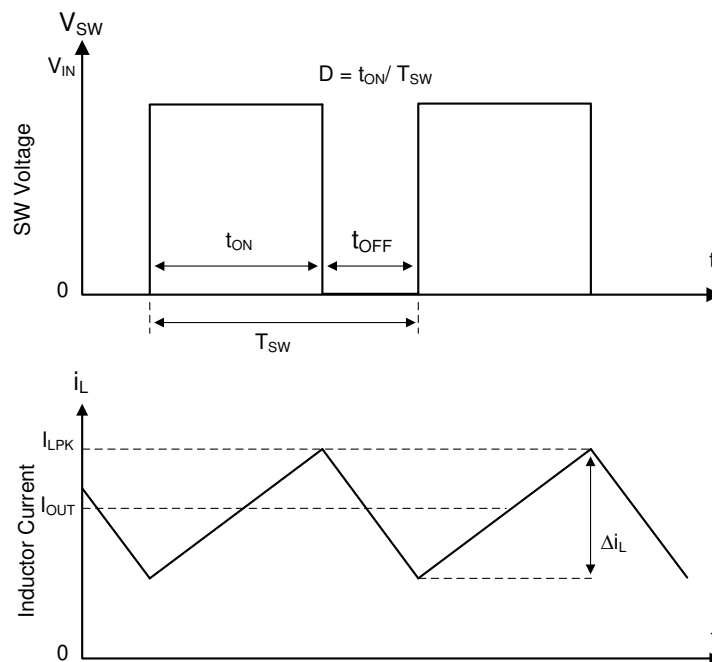

Figure 8-1. SW Node and Inductor Current Waveforms in Continuous Conduction Mode (CCM)
The following operating description of the LMR514x0 refers to Functional Block Diagram and to the waveforms in Figure 8-1. The LMR514x0 is a step-down synchronous buck converter with integrated high-side (HS) and low-side (LS) switches (synchronous rectifier). The LMR514x0 supplies a regulated output voltage by turning on the high-side and low-side NMOS switches with controlled duty cycle. During high-side switch ON time, the SW pin voltage swings up to approximately V_{IN} , and the inductor current, i_L , increases with linear slope $(V_{IN} - V_{OUT}) / L$. When the high-side switch is turned off by the control logic, the low-side switch is turned on after an anti-shoot-through dead time. Inductor current discharges through the low-side switch with a slope of $-V_{OUT} / L$. The control parameter of a buck converter is defined as Duty Cycle $D = t_{ON} / T_{SW}$, where t_{ON} is the high-side switch ON time and T_{SW} is the switching period. The converter control loop maintains a constant output voltage by adjusting the duty cycle D . In an ideal buck converter, where losses are ignored, D is proportional to the output voltage and inversely proportional to the input voltage: $D = V_{OUT} / V_{IN}$.